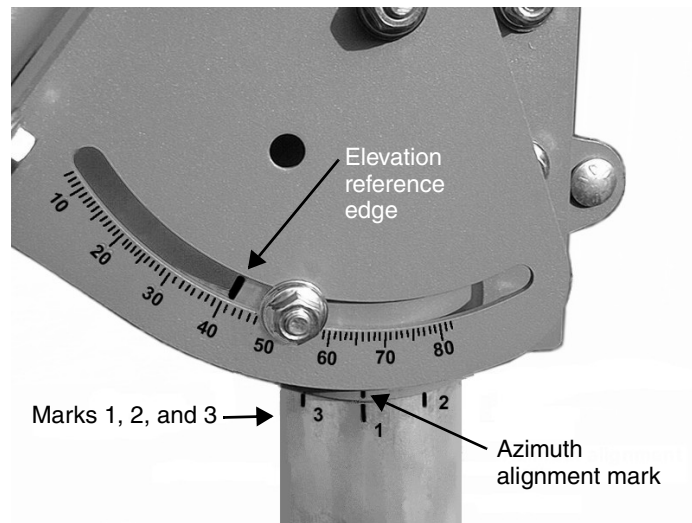

Figure 40: Locating and lining up the azimuth bearing
- b. Mark the location on the Az/El cap above mark 1. This is the *azimuth alignment mark*. (See Figure 40.)